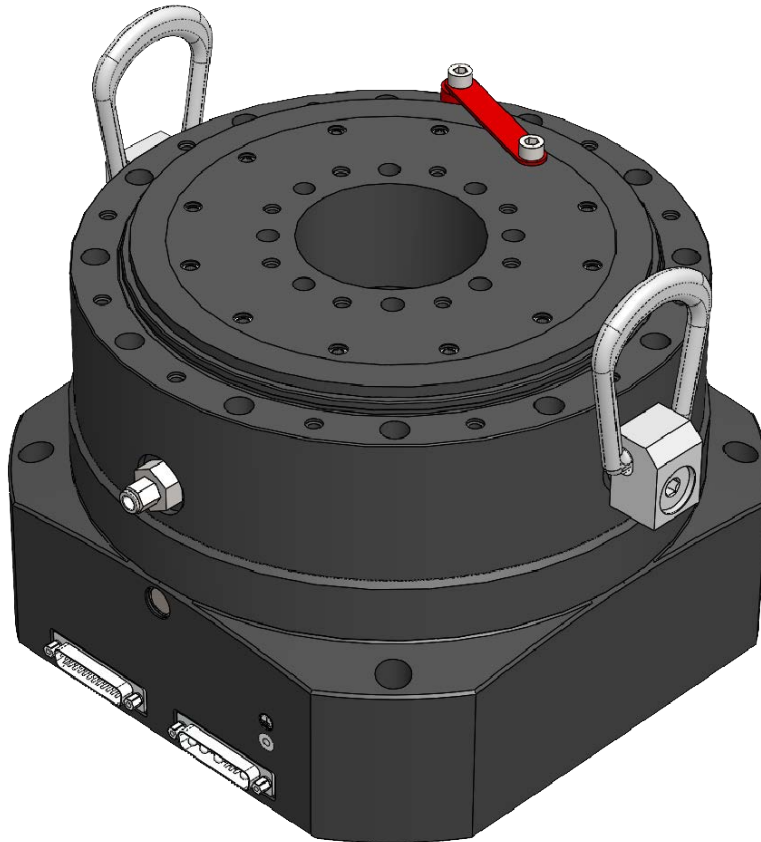

Figure 2-1: ABRX250 with Shipping Clamps and Hoist Rings
- Lift only from the base or, for the ABRX250, use the hoist rings (Figure 2-1)